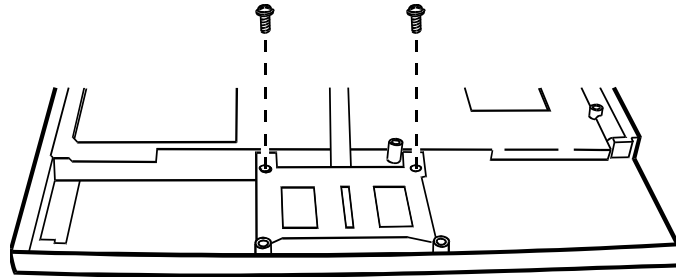

FIGURE 7-34. REMOVING THE TOUCHPAD
1. REPLACE THE TWO SCREWS. (SEE FIGURE 7-34).